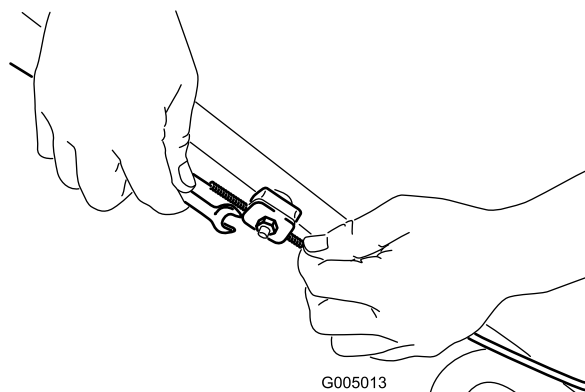

Figure 36
1. Loosen the cable-support nut (Figure 36).